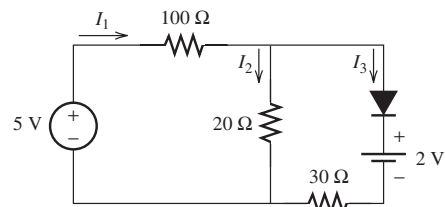

FIGURE P8.21 Circuit for Problem 8.21.
8.21 (H)* Find I_1 , I_2 , and I_3 for the circuit shown in Figure P8.21.